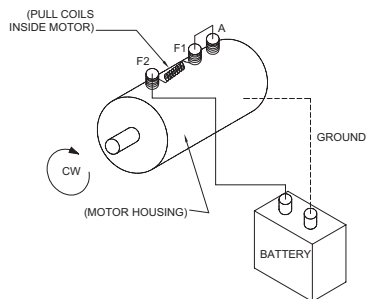

FIGURE 1
2. Attach a wire (at least a number 6 wire) from positive (+) battery terminal to F-2 motor terminal. Ground negative (-) battery terminal to motor housing (See Figure 1). Motor should now run.